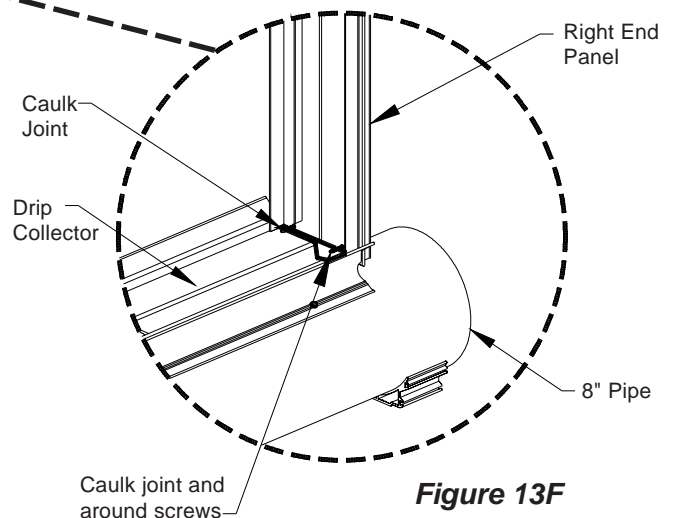

Figure 13F
18) Apply a bead of caulk around inside and outside of end panel and drip collector end cap where the end panel meets the drip collector and 8" pipe. **See Figure 13F.** Also caulk the screw head in bottom of drip collector and screws coming in thru end panel.